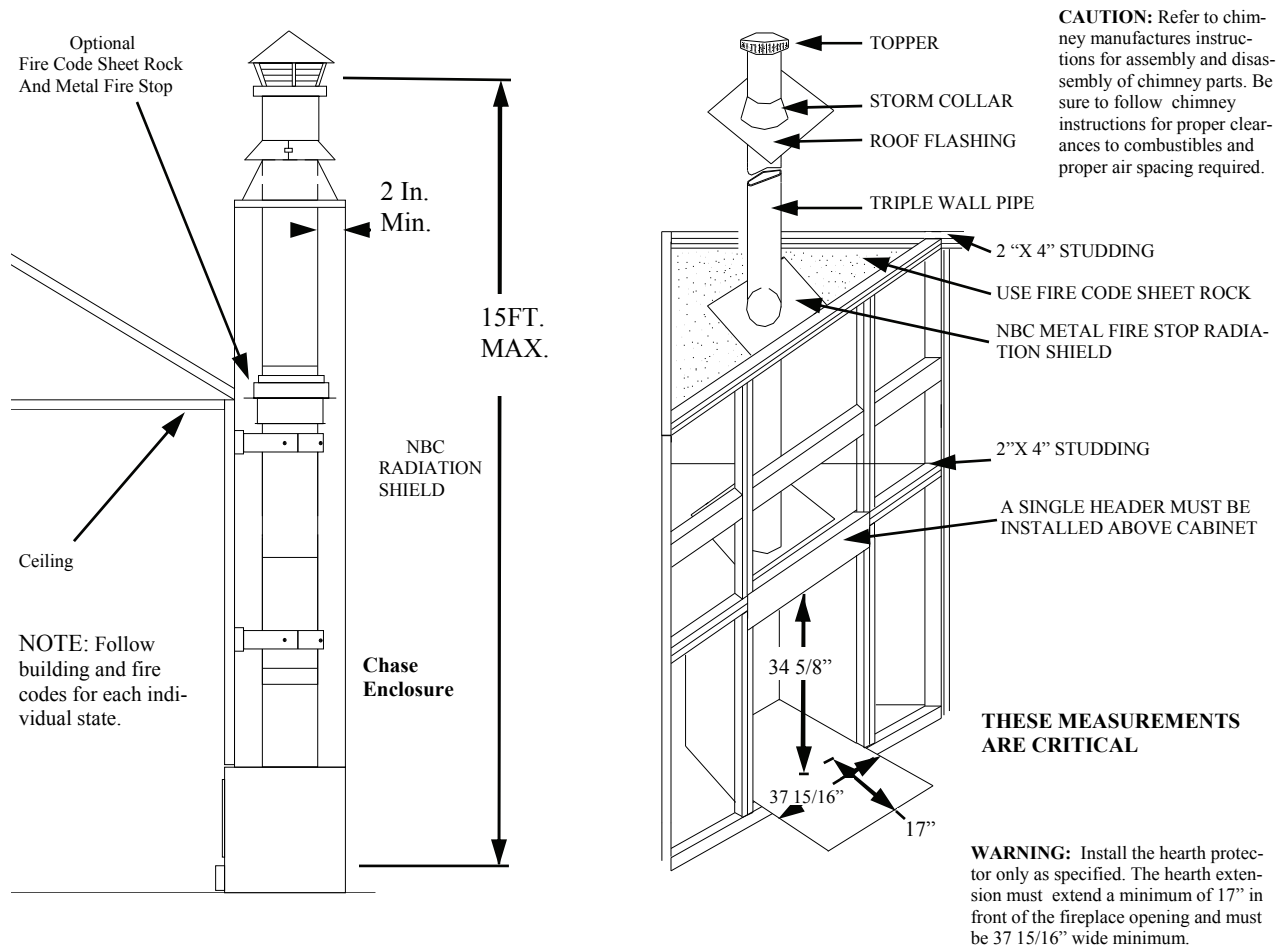

FIGURE 10 CHASE ENCLOSURE AND CORNER LOCATION FRAMING
- b) 2"x4" framing above the unit must be turned flat. This allows proper clearance from framing to chimney (2" minimum). (See Figure 10.)